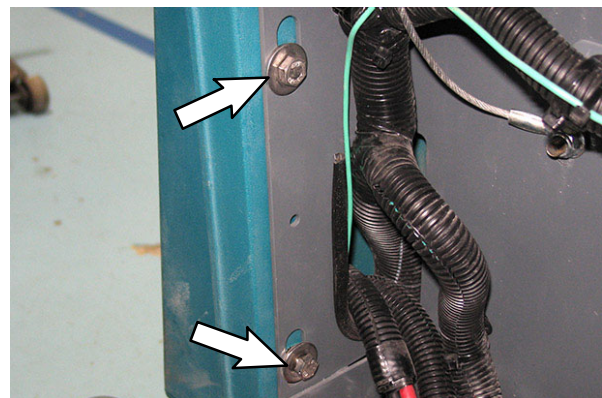

FIG. 7
6. Remove the two M8 hex screws/flat washers securing the front shroud to the steering channel. Set both hex screws and flat washers aside. (Fig. 7)